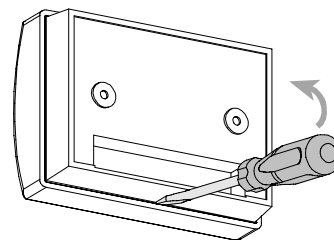

Figure 4. Opening the Unit
A. Use a screwdriver to separate the cover from the base, as shown in Figure 4.